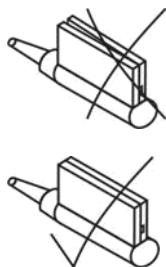

Fig.06
6. Make sure neither the haptic nor the optics is caught in between the shutters (if it happens some gap will be observed between the shutters after closing the cartridge) as shown in Fig.06. If the gap is observed, repeat step no. 3,4 & 5.